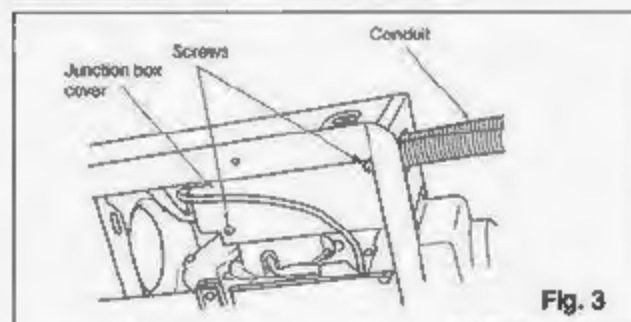

Fig. 3
4. Remove the junction box cover and secure conduit to junction box knockout hole. (7/8 inch) (Fig. 3) (1 hole for 11VH1, 2 holes for 11VHL1)